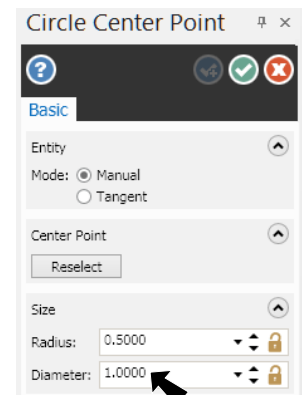

Fig. 3
Step 4. In the Circle Center Point function panel: under Size, **Fig. 3**